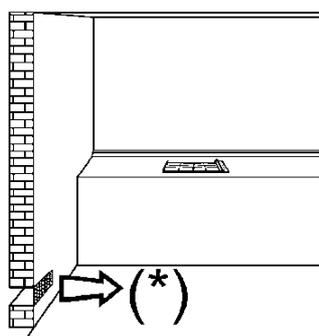
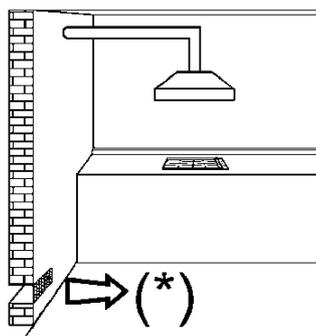
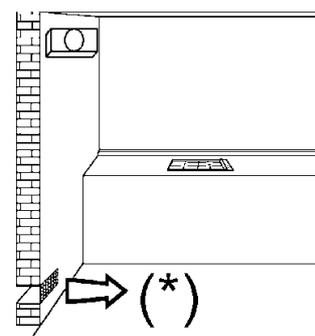

FIG. 3
FIG. 4
FIG. 5
- use of a gas cooking appliance produces heat and moisture in the room in which it is installed. The room must therefore be well ventilated by keeping the natural air vents clear (see fig. 3) and by activating the mechanical aeration device (suction hood or electric fan fig. 4 and fig. 5).
It is essential to ensure that the room in which the appliance is installed is permanently ventilated in order to allow the appliance itself to operate correctly. The necessary amount of air is that required for regular gas combustion and ventilation of the relative room, the volume of which must not be less than 20 m³. Air must naturally flow through permanent openings in the walls of the room in question. These openings must vent the fumes outdoors and their section must be at least 100 cm² (see fig. 3). Construction of the openings must ensure that the openings themselves may never be blocked. Indirect ventilation by air drawn from an adjacent room is also permitted, in strict compliance with the provisions in force.
Gas cooking appliances must always dispose of their combustion fumes through hoods. These must be connected to flues, chimneys or straight outside. If it is not possible to install a hood, an electric fan can be installed on a window or on a wall facing outside (see fig. 4). This must be activated at the same time as the appliance (see fig. 5), so long as the specifications in the provisions in force are strictly complied with.